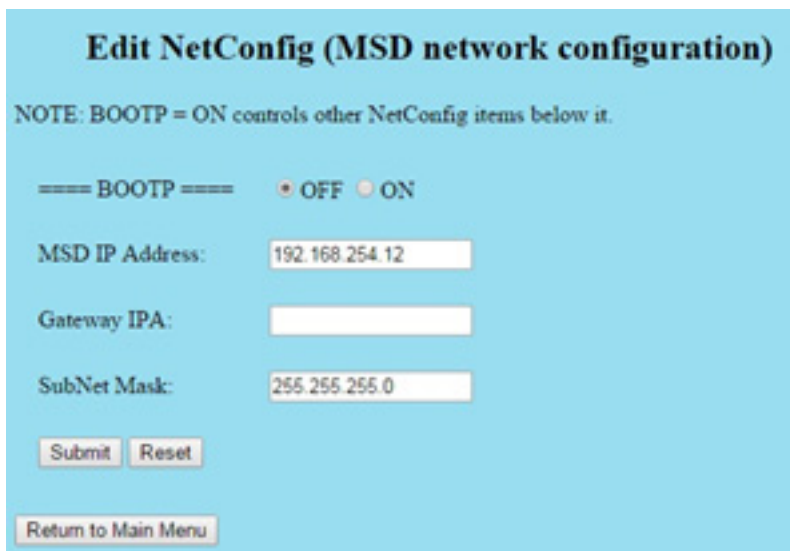

Figure 20. WUI Edit NetConfig
- 5 Click **Set Real-Time Clock or Edit NetConfig**, and go to **Edit NetConfig (MSD network configuration)**. (See Figure 20.)